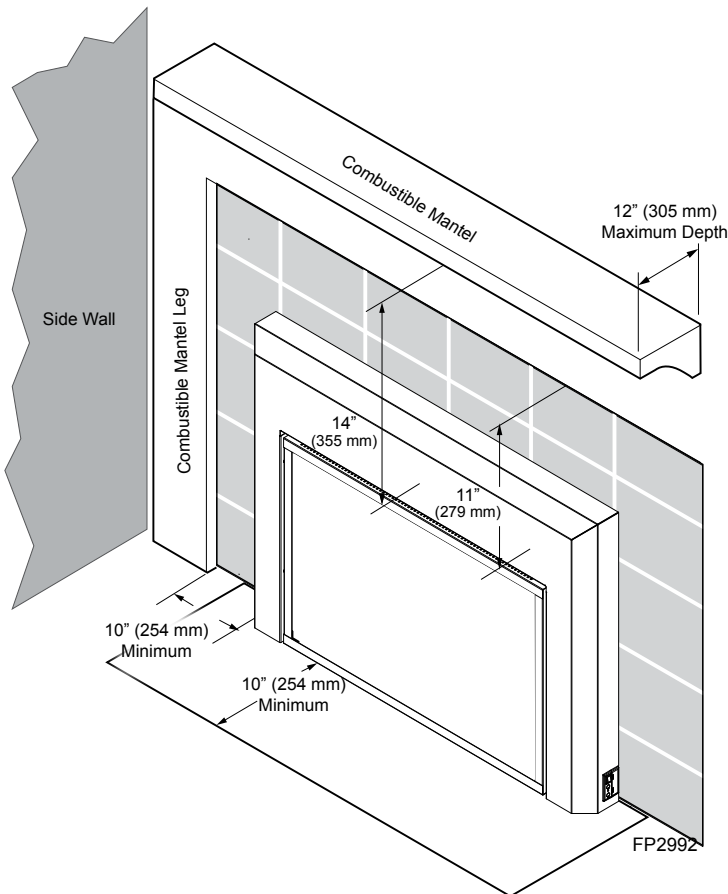

Figure 3 - Mantel Clearances
- Minimum clearances to combustibles, such as mantels, must be maintained. *Refer to Pages 8 and 9, Figures 3 and 4.*
WARNING The dimensions shown on *Pages 8 and 9, Figures 3 and 4*, are minimum clearances to maintain when installing this heater. Follow these instructions carefully to ensure safe installation. Failure to follow instructions exactly can create a fire hazard.